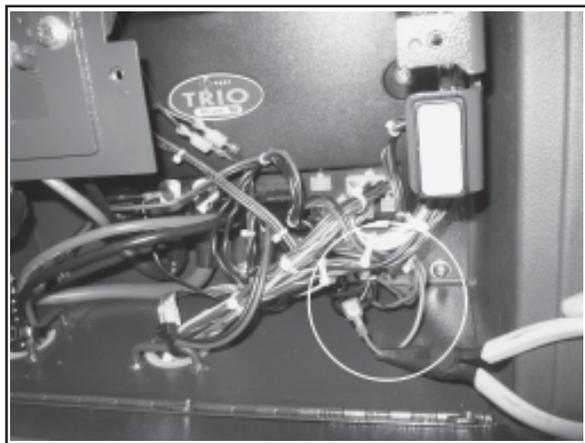

Figure 1
7. Fasten with the four (4) 711242 bolts, 711515 flat washer and 711546 lock washer.
- b. Remove the two access doors (one each end) by removing the (3) wing nuts.
- c. Install the brushes by sliding through the access opening. (See Figure 1 for correct orientation)
Inside the main electrical box, beneath the seat there is an Orange/Violet jumper wire (shown disconnected in Figure 1) that may or may not be connected to the terminal block, depending on the type of scrub deck that was originally ordered with the machine. When using the **Disk Scrub Deck**, the wire is **disconnected**. When using the **Cylindrical Scrub Deck**, the wire is connected to the terminal block located in the electrical box, beneath the TRIO Controller. This terminal block is divided into five sections, each separated by a divider. The four leftmost sections contain one column each of spade terminals. The section on the right contains two columns of spade terminals (**this section also contains four Red/Black wires, not shown in Figure 2 for clarity**). The Orange/Violet wire must be connected to a spade terminal in the section with two columns when using the Cylindrical Scrub Deck **ONLY!**